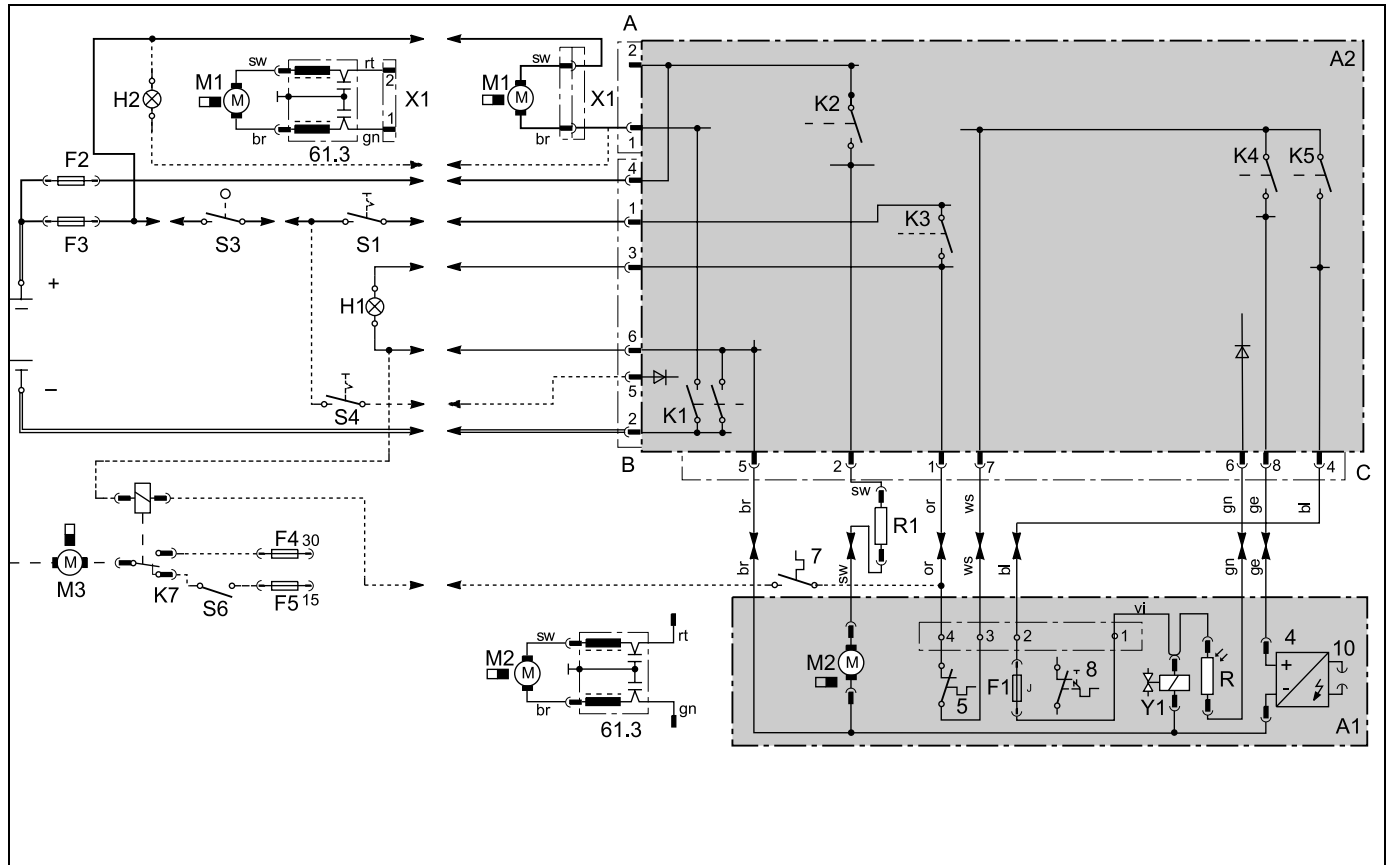

Fig. 33: System wiring diagram for DBW 160 with control module 1553 and switch, for legend see page 73
The electrical connection of the heaters is to be performed in accordance with Fig 33, 35 or 37: System wiring diagram
Any plug designs that differ from the standard versions (Fig. 33, 35 and 37) are to be requested separately from Spheros.
- Switch, see system wiring diagram Fig. 33, 35 and 37